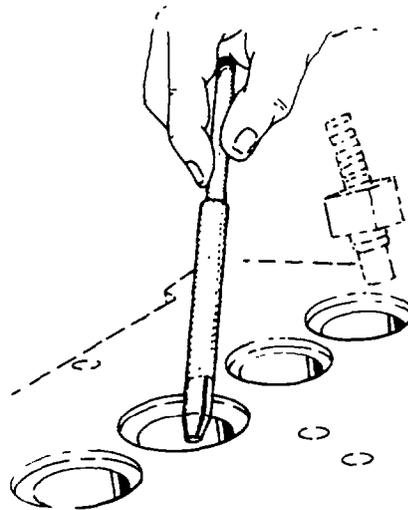

Fig. 28 — Installing Cutting Tool Pilot
1. Install the cutting tool pilot into the guide (see fig. 28).